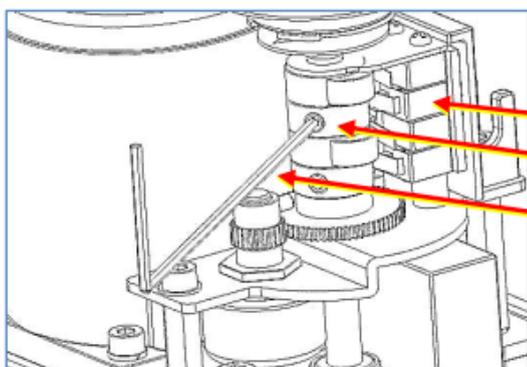

Figure 1: Close Cam Setting
- Rotate the CLOSE cam CW until the limit switch 'clicks' (see Figure 1 below)